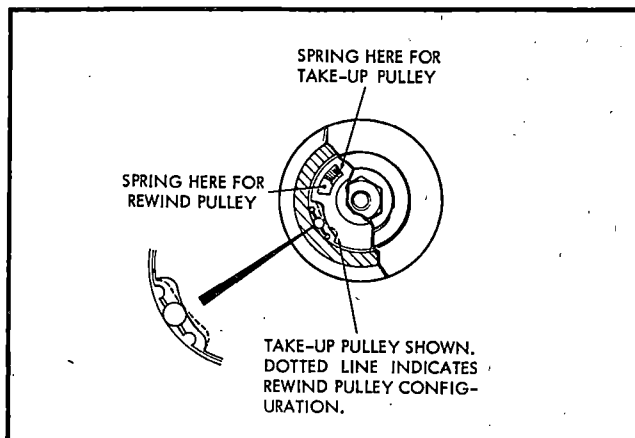

Figure 37. Method of Pulley Reassembly
Refer to Parts Catalog figure 19A and disassemble the pulley assemblies in the indexed order of disassembly. Note that these pulley assemblies have identical parts and differ only in the method in which the retainer (4), steel balls (5), spring (6) and cam (7) are installed. Figure 37 illustrates the method of assembly as viewed from the lock nut end. The clutch cam (7) need only be turned over (inverted) and the spring (6) installed on one side or the other of the clutch ball retainer ear to convert the pulley from take-up to feed, or vice versa. As viewed from the lock nut end, the take-up pulley must turn freely in a